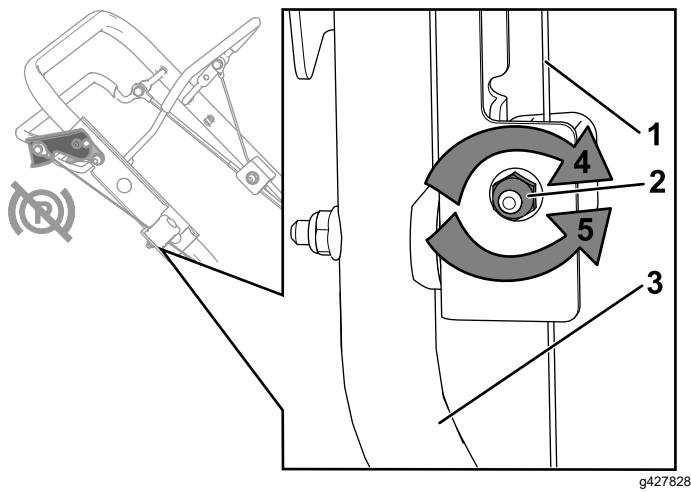

Figure 40
2. Turn the adjustment nut counterclockwise to loosen the cable adjustment (Figure 40).
3. Adjust the tension on the cable (Figure 40) by pulling or pushing the cable jacket and holding that position.